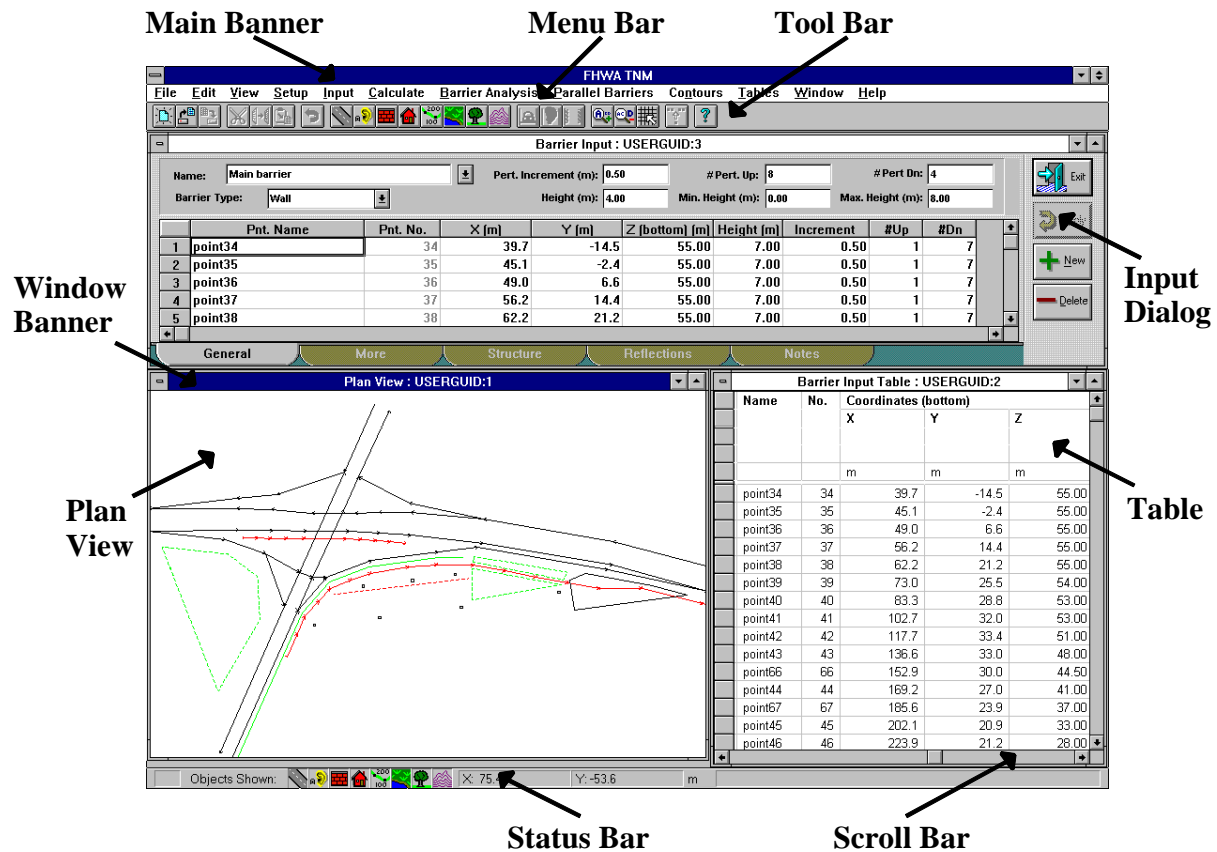

Figure 2. The TNM screen.
Figure 2 shows TNM's main screen, including a plan view of an existing TNM run, an output table and an input dialog box. Sections 3.1.1 through 3.1.10 discuss the major screen items shown in Figure 2.
3.1.2 Window Banners. A window banner shows the name of the opened window and its associated run name. Note: When you have more than one window open/displayed, the window whose banner is highlighted, is the "active" window. All editing/inputting is done in the active window. Any non-active windows, dynamically linked to the active window, will be able to effect those edits. To activate a window, use the mouse to click anywhere on that window. That window's banner will then be highlighted. Once a window is “active,” you may move the position of that window by holding down the left mouse button on the window banner, and dragging the entire window to a new desired position. In Figure 2, the Plan View is the active window.